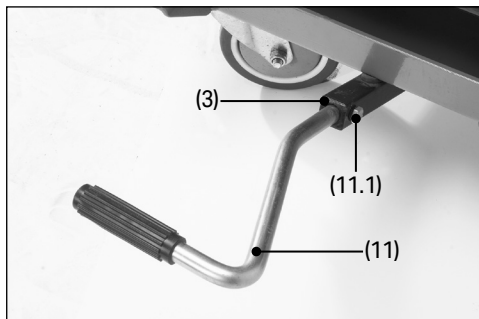

Fig. 1
5.1 Assembling the Hydraulic Lifting Table (Fig. 1 - 3)